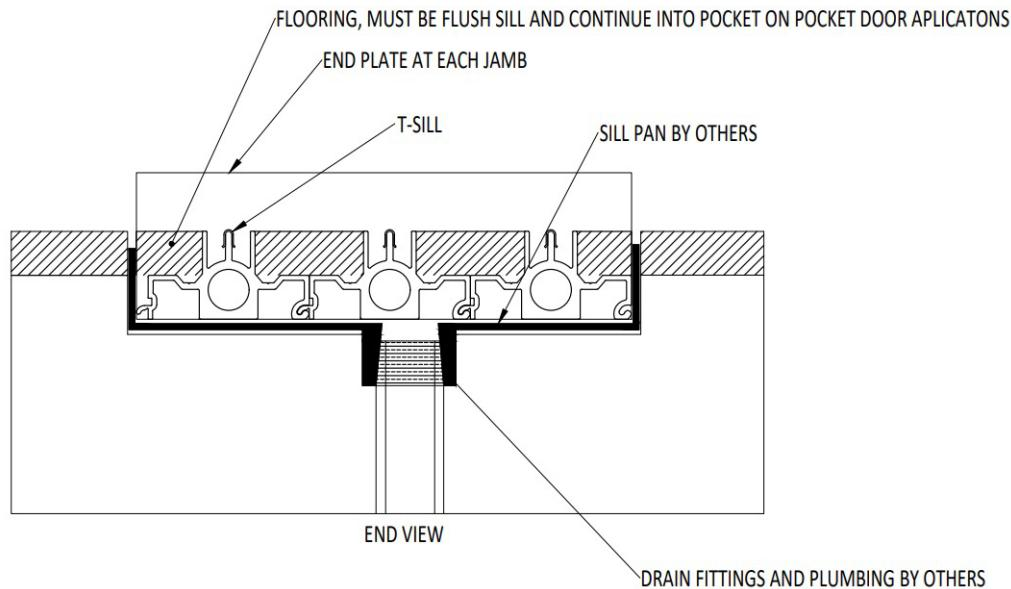

Figure 6
- Front Weep with pan and drain by others (See Figure 6)
8. Front Weep Sills - sills that have a weep slot located on the bottom surface 6" from each end and 6" from each stagger location will allow water to drain out the bottom of the sill directly into a water management system supplied by others, such as a sill pan or equivalent. See Figure 6. If a slot drain or similar system is used, the door sill pan can be drained into the slot drain. Ensure that the slot drain bottom is adequately below the sill pan to ensure water only flow away from the sill. (See Figure 6). Proceed to step 10.